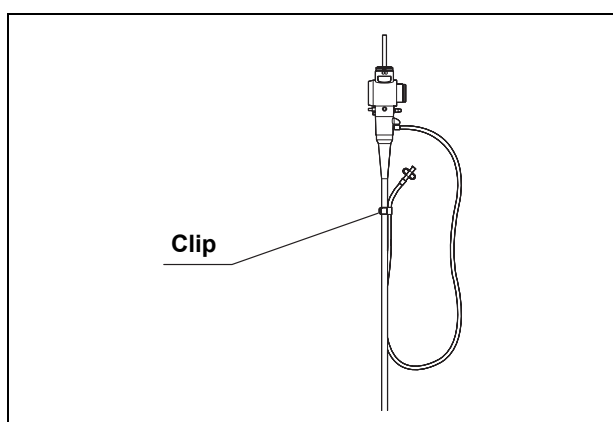

Figure 4.5
2. When carrying the endoscope with the auxiliary water tube connected to the auxiliary water inlet, attach the clip of the auxiliary water tube to the universal cord (for endoscopes with the auxiliary water feeding only, see Figure 4.5).